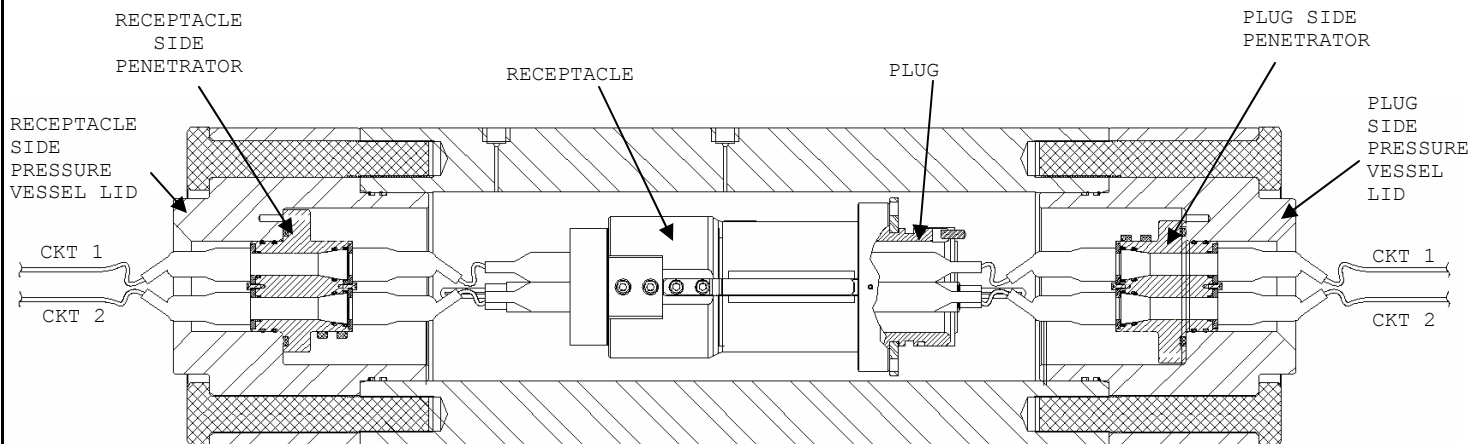

FIGURE 4: PRESSURE VESSEL TEST CONFIGURATION
6.20 REFER TO FIGURE 4 FOR GUIDANCE IN ASSEMBLING THE PRESSURE VESSEL ASSEMBLY.
6.32 REFER TO FIGURE 4 TO VERIFY THAT THE PRESSURE VESSEL IS ASSEMBLED CORRECTLY.